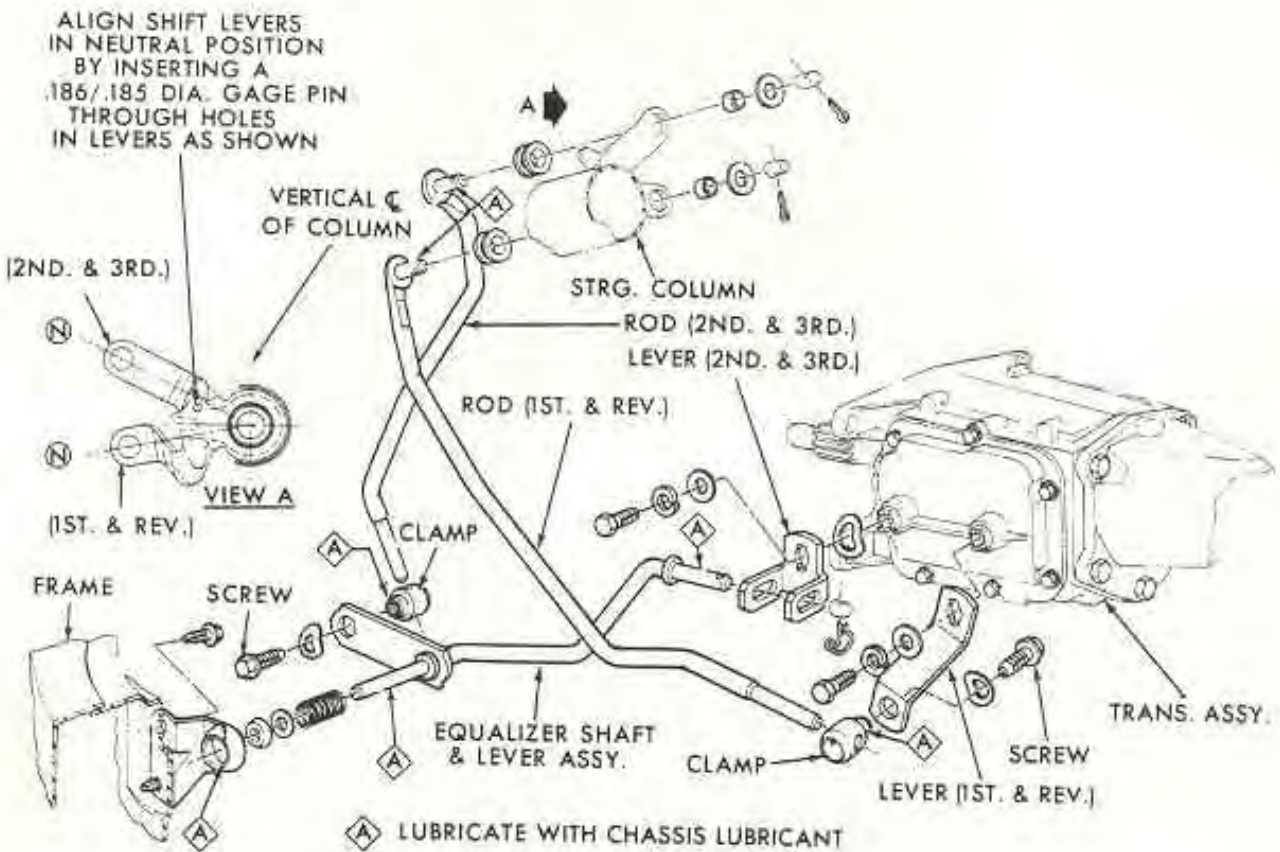

Fig. 7B-1 Tempest Column Shift Controls
LINKAGE ADJUSTMENT--FLOOR SHIFT (Fig. 7B-3 and Fig. 7B-4)
6. Place collar J 6403-2 onto tool J 6403-1 (Fig. 7B-5).